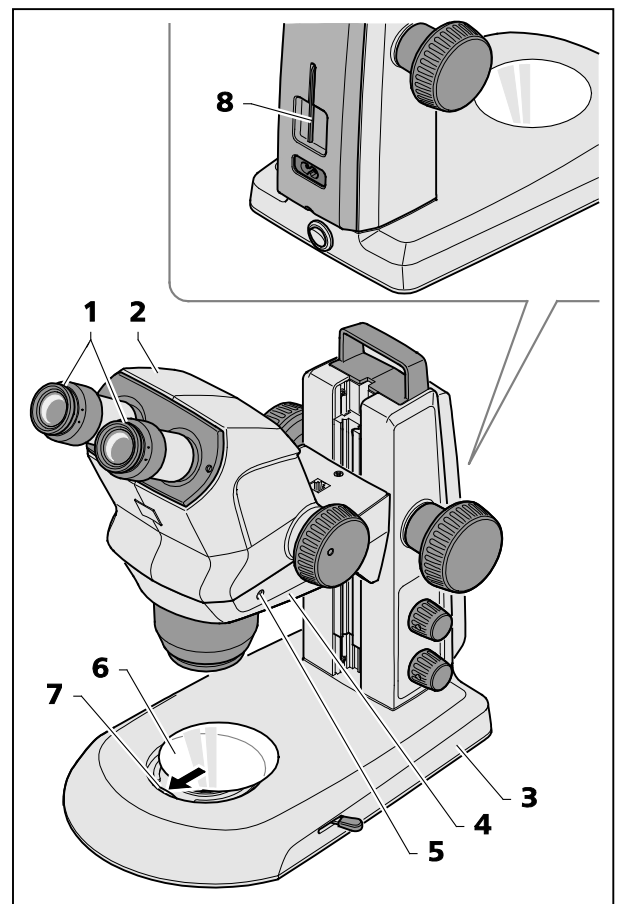

Fig. 6 Installing the stereo microscope
- Place stand (Fig. 6/3) on a level, firm support.
- If the Stemi 508 body (Fig. 6/2) has not yet been mounted, insert it in the Stemi mount (Fig. 6/4), align it and secure it using the clamping screw (Fig. 6/5).
The appropriate Allen key (Fig. 6/8) is located in the support on the back of the device.
- If the two eyepieces (Fig. 6/1) have not yet been mounted, insert them both to their stop in the eyepiece tube.
- Insert glass plate or B/W plastic plate (Fig. 6/6) in the mount in the base of the stand. To this effect, press the glass plate or the B/W plastic plate against the spring (Fig. 6/7) and make it lock in.